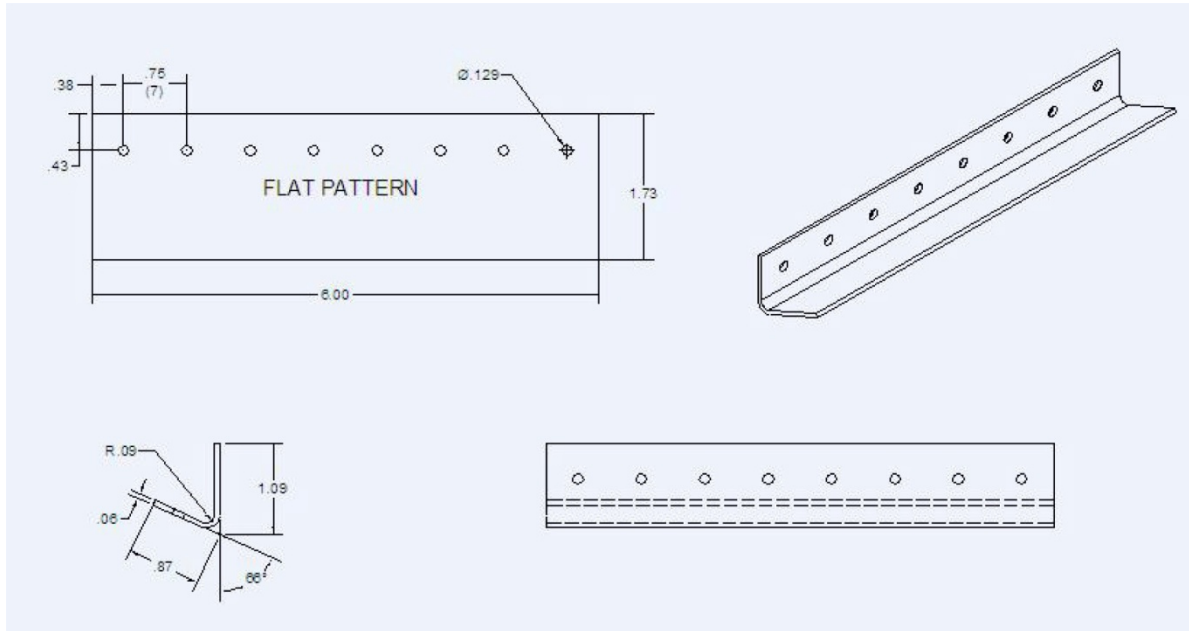

FIGURE 9.5 DOUBLER SECTIONS
7. Fabricate keel splice doubler sections from 6061-T6 .060" aluminum and using figure 9.5 as recommended dimensions.